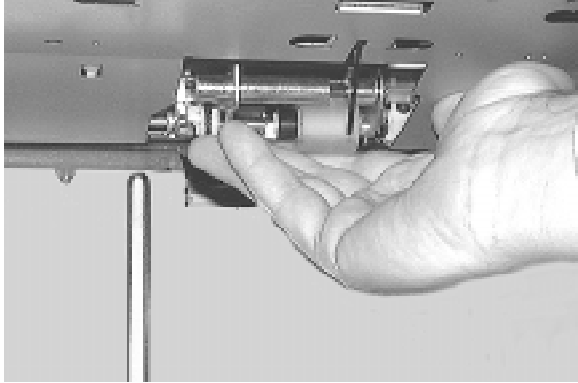

Figure 4-66 Holding Upper Roller Assembly in place
2. Once the upper roller assembly is in place, gently hold it up and push it slightly to the left (to help the screws engage). See Figure 4-66.